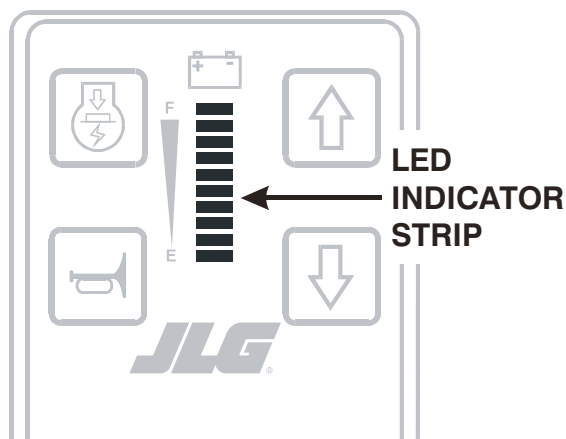

Figure 3-1. LED Battery/Fault Code Indicator Strip on Platform Controller Box.
This strip has ten (10) green LEDs and is located on the platform controller box between the function touch pad buttons. See Figure 3-1.